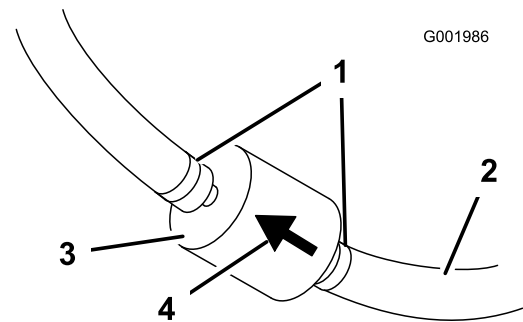

Figure 53
5. Squeeze the ends of the hose clamps together and slide them away from the filter (Figure 53).